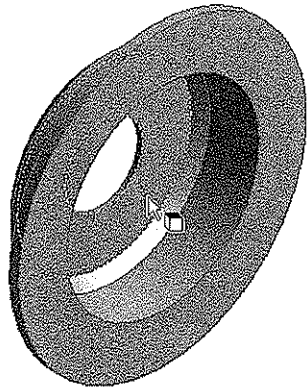

Figure 4-23 The inner face of the base feature selected
- 2. Next, select the inner face of the base feature, as shown in Figure 4-23.